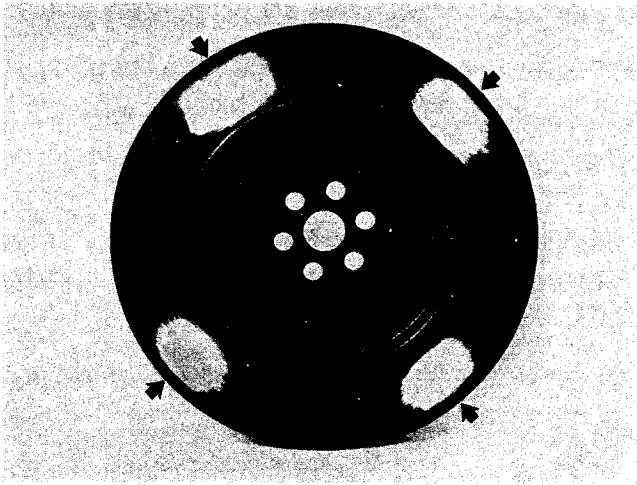

Fig. 1-9, (N101116). Damper prepared for measuring
3. Remove the paint and accumulated dirt and grime from both the front and rear surfaces of the damper in four (4) equally spaced areas, as shown in Fig. 1-9 (avoid areas with stamped lettering). This will allow for precise measurement of the damper's thickness with micrometer.